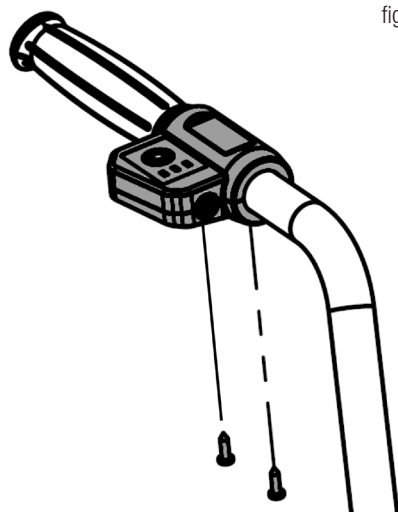

fig. 4
4. Mount the control panel as shown in fig. 4.